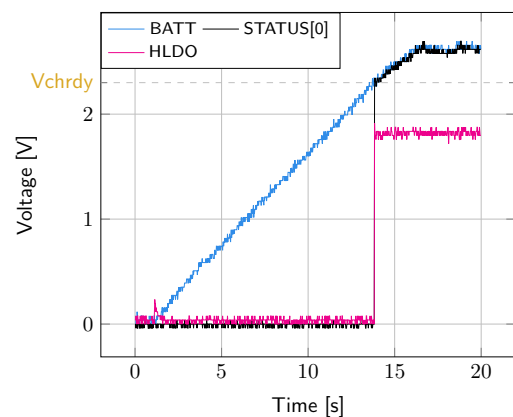

Figure 2: **STATUS[0]** and **HLDO** evolution with **BATT**
- **BATT**: Voltage rises as the power provided by the source is transferred to the storage element (see Figure 2).
- **HLDO/LLDO**: Regulated when voltage on **BATT** first rises above **Vchrdy** (see Figure 2).
- **STATUS[0]**: Asserted when the LDOs are ready to be enabled (refer to Section 7.2 "Normal mode" of the AEM30940 datasheet) (see Figure 2).